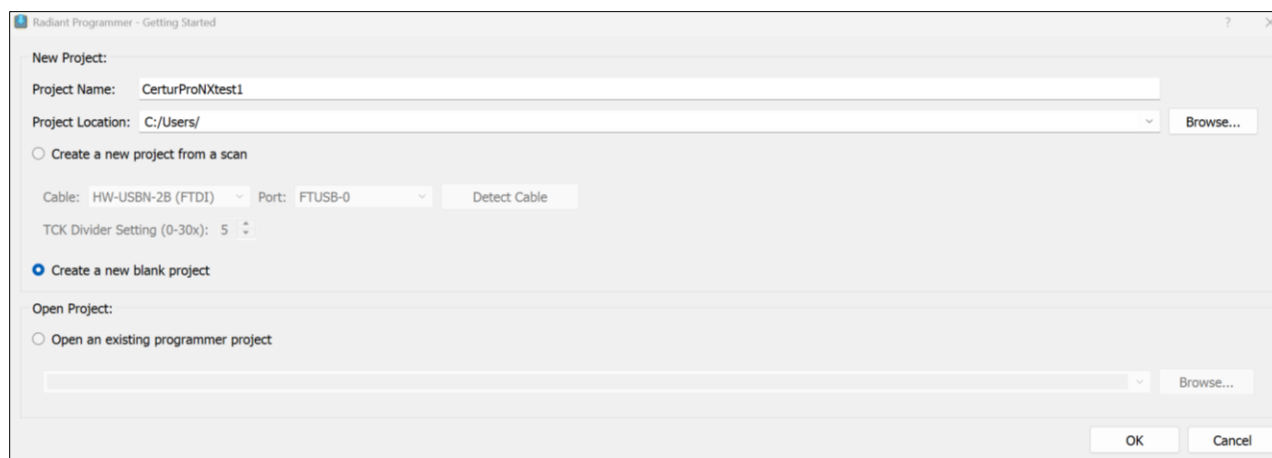

Figure 16.8. Radiant Programmer – Default Screen
1. Launch Radiant Programmer. In the Getting Started dialog box, select **Create a new blank project** (Figure 16.8).